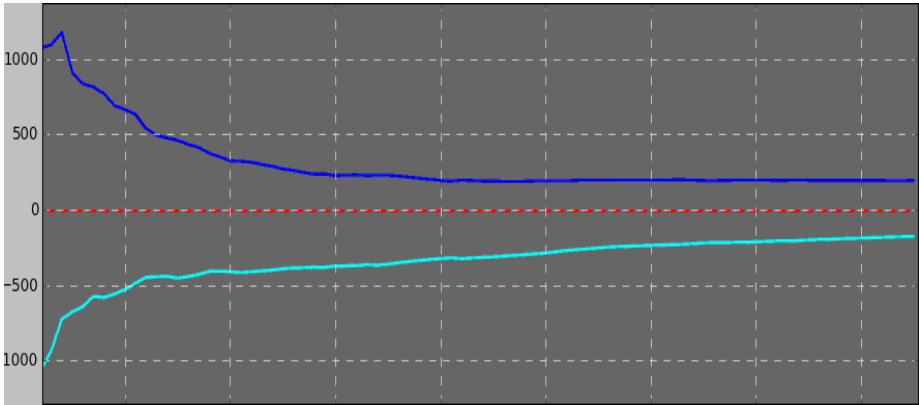

Figure 2.21 – Cesium absence
2.13.1 If the band center coincides with the zero line (Figure 2.21 shows that the red line-cursor is at zero position and in the center at the same time), this is the